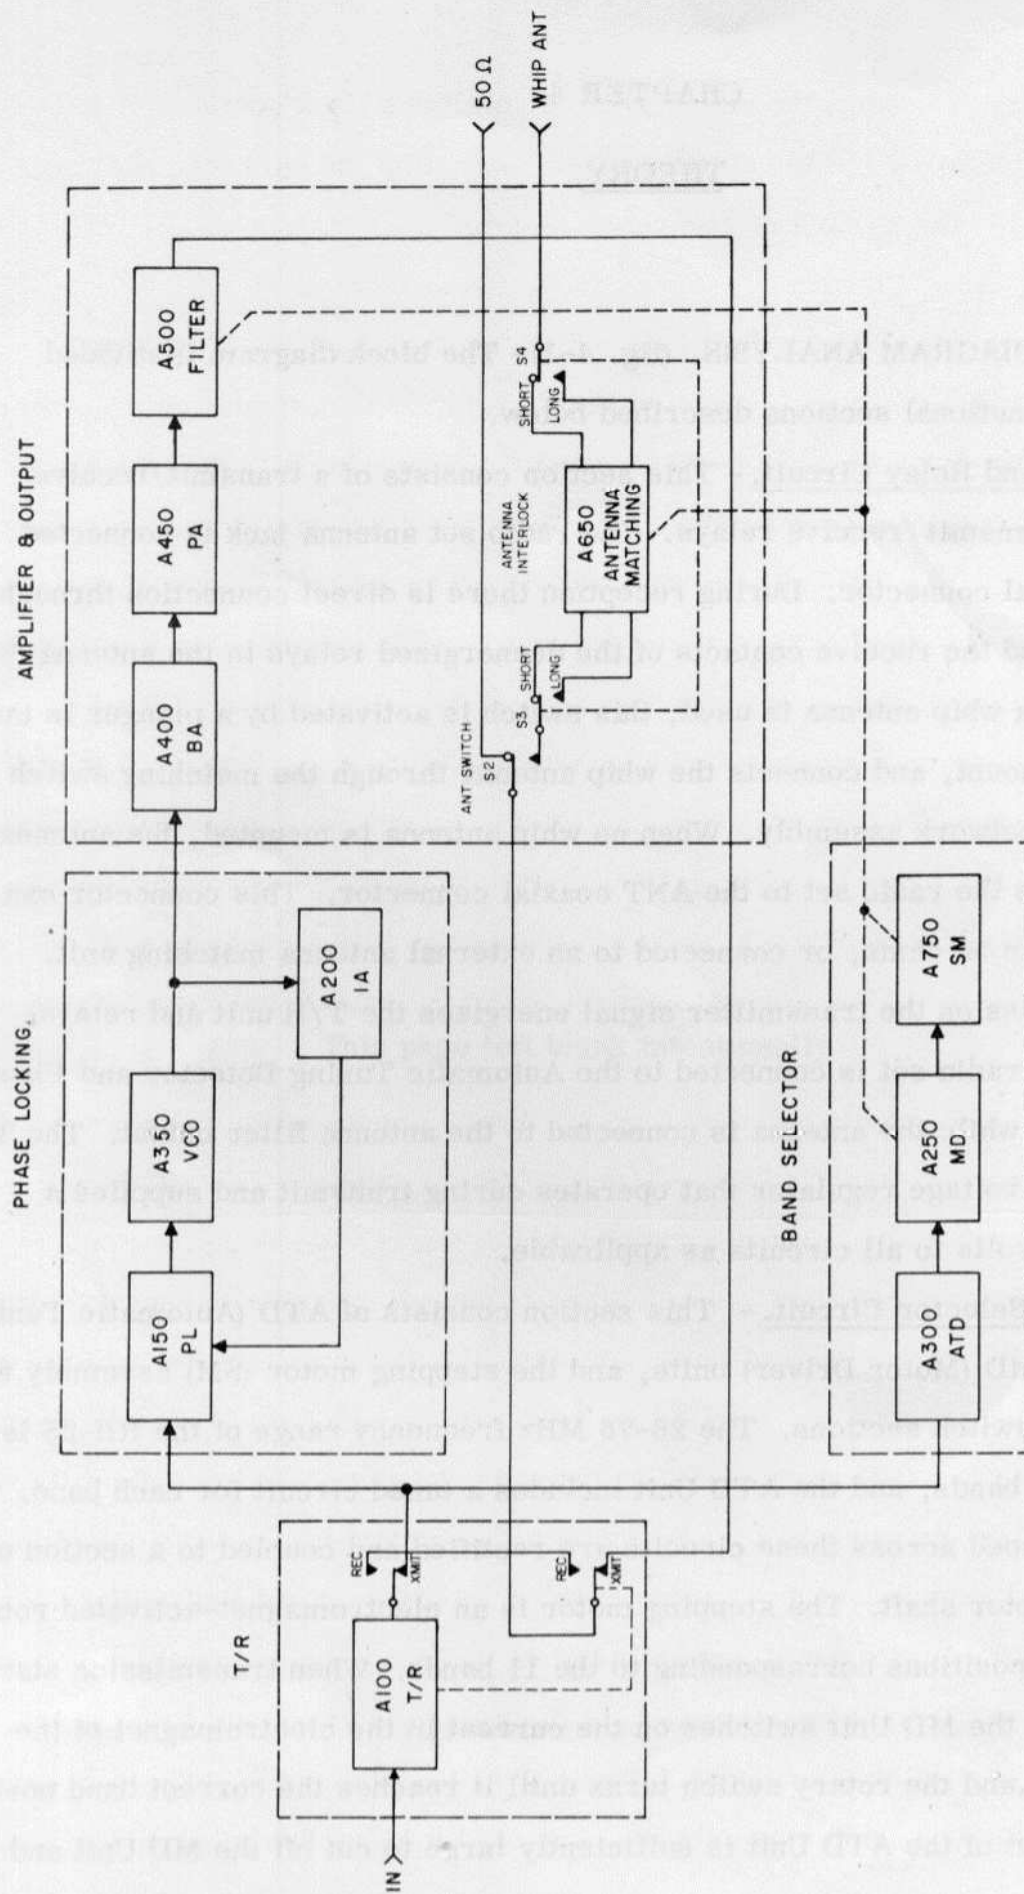

Figure 4-1. Functional Block Diagram
4-1. BLOCK DIAGRAM ANALYSIS. (fig. 4-1)- The block diagram is divided into the four functional sections described below.
(1) General Description.(fig. 4-1) - This section consists of the PL (Phase Locking), VCO (Voltage Controlled Oscillator), and IA (Isolation Amplifier) units. The VCO operates from 26 to 76 MHz and is controlled by a d-c voltage. Phase locking is accomplished by comparing the VCO output with the driving signal, in a phase detector of the PL unit. In case of a phase deviation, a d-c correction voltage develops at the input to the VCO. The phase locking reaction is rapid enough to follow the frequency modulation of the driving signal. Consequently, the VCO output assumes the same frequency and modulation as the driving signal. Amplification of the VCO signal produces the output of the RB-25. The phase locking system eliminates spurious frequencies of the driving signal from the RB-25 output. For that reason the driving signal is not directly boosted in the broadband amplifier. The IA unit prevents spurious frequencies of the driving signal from reaching the output of the VCO through the reference line of the VCO to the PL Unit.